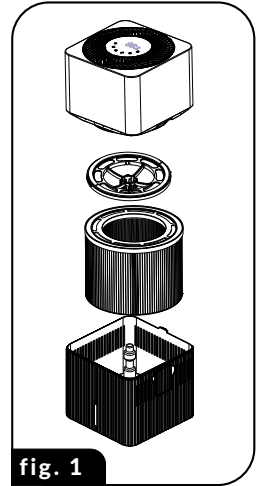

fig. 1
4. Remove the device's housing (3), remove the floater locking ring (4) and then remove the filter (6) - Fig. 1. Remove the protective film (if present on the filter) and place it back in the tank (10). Reinstall the floater's ring and the device's housing (3). The housing (3) only fits the water tank (10) in one position.
5. Pour water into the tank (10).